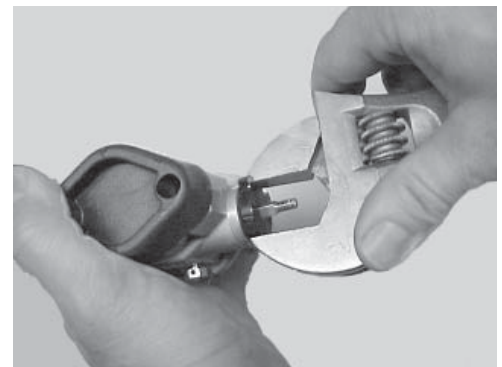

figure 37
15.6.3.5. This will expose the bonnet (VAL1-16) nut. Remove the nut using a valve nut tool VAL1-12 (figures 35 and 36), or if this tool is not available use a 12" adjustable wrench endwise (figure 37). Lift the nut off and push the stem out of the nut. Use the stem (and the knob if needed) to remove valve seat assembly.